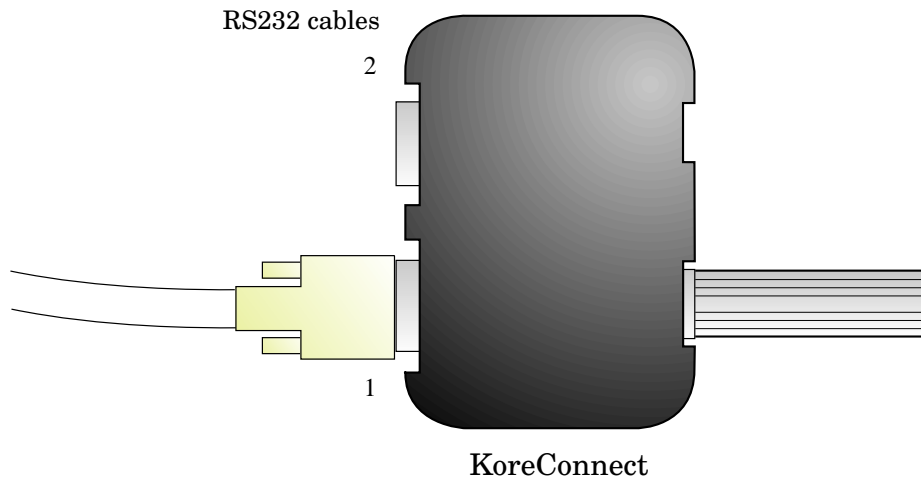

Figure 4.2: Connection when the robot is used with a KoreBotLE.
- The KoreConnect should be connected to the host computer using a standard RS232 cable. in this mode, the cable has to be connected on the DB9 connector number 1 (see fig 4.2) You can easily purchase such a cable from your host computer dealer.